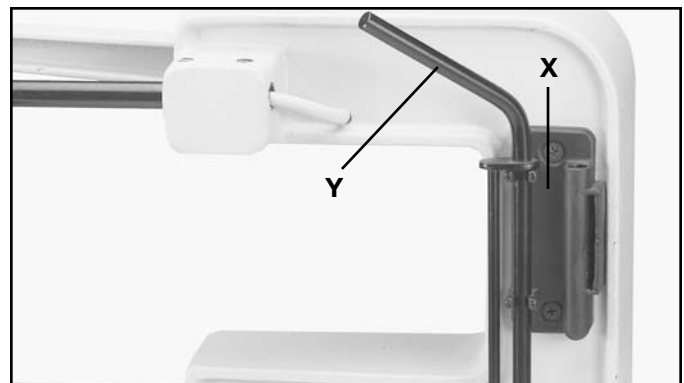

Fig. 13
11. The tool holder (X) Fig. 13, is used to hold the quick-set blade changing wrench (Y), (for removing blade from lower blade holder), allen wrench and extra blades.